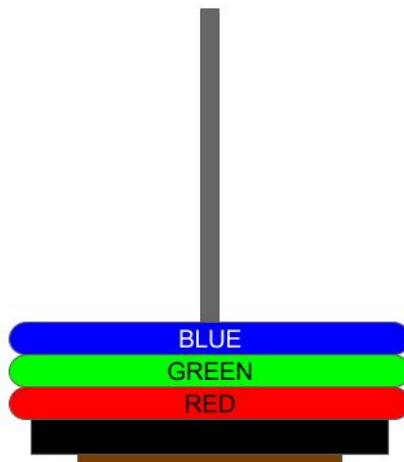

Figure 4.1. Stacking Order
- 3.2.2.6. The hard route will be unmarked (shown as an orange line in Figure 4.1), but will allow vehicles to stop at the crosswalk (yellow line) for the “Stop” task.
- 4.6.1. The ring colors should be red, green, blue from bottom to top (Figure 4.1)